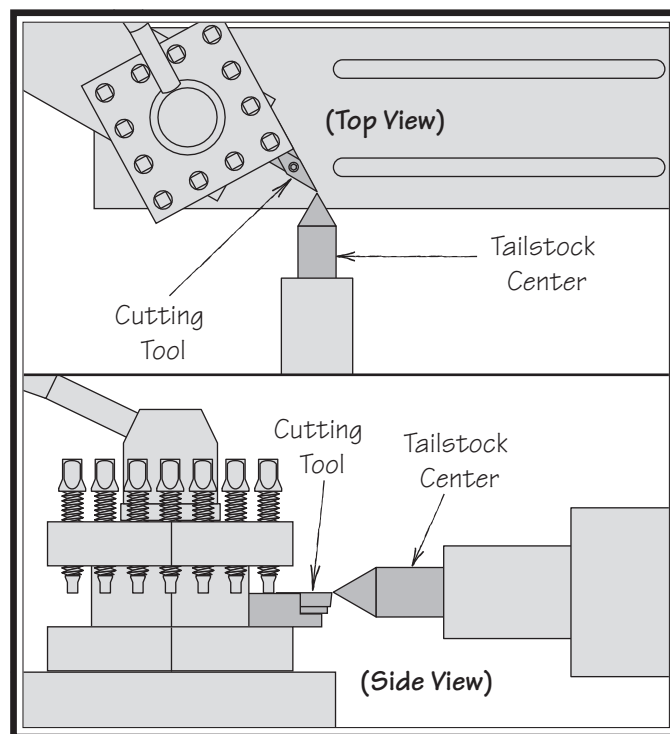

Figure 62. Cutting tool tip aligned with tailstock center.
- Adjust the height of the cutting tool so that the tool tip is aligned vertically and horizontally with the center tip, as shown in **Figure 62**.